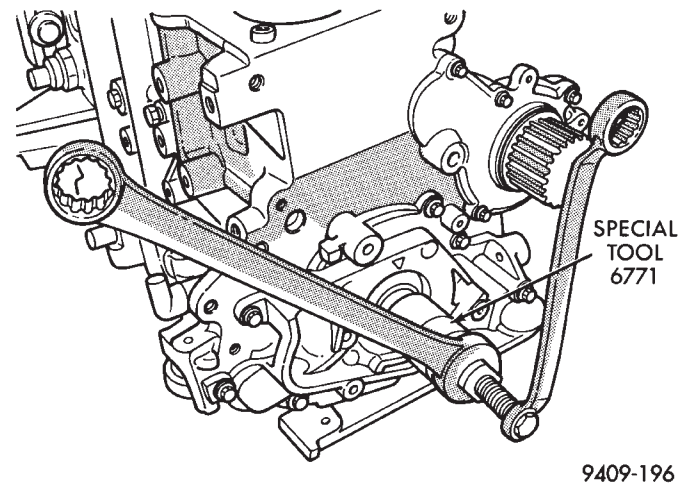

Fig. 70 Front Crankshaft Oil Seal—Removal
(4) Using Tool 6771 to remove front crankshaft oil seal (Fig. 70). Do not damage the seal contact area on the crankshaft.